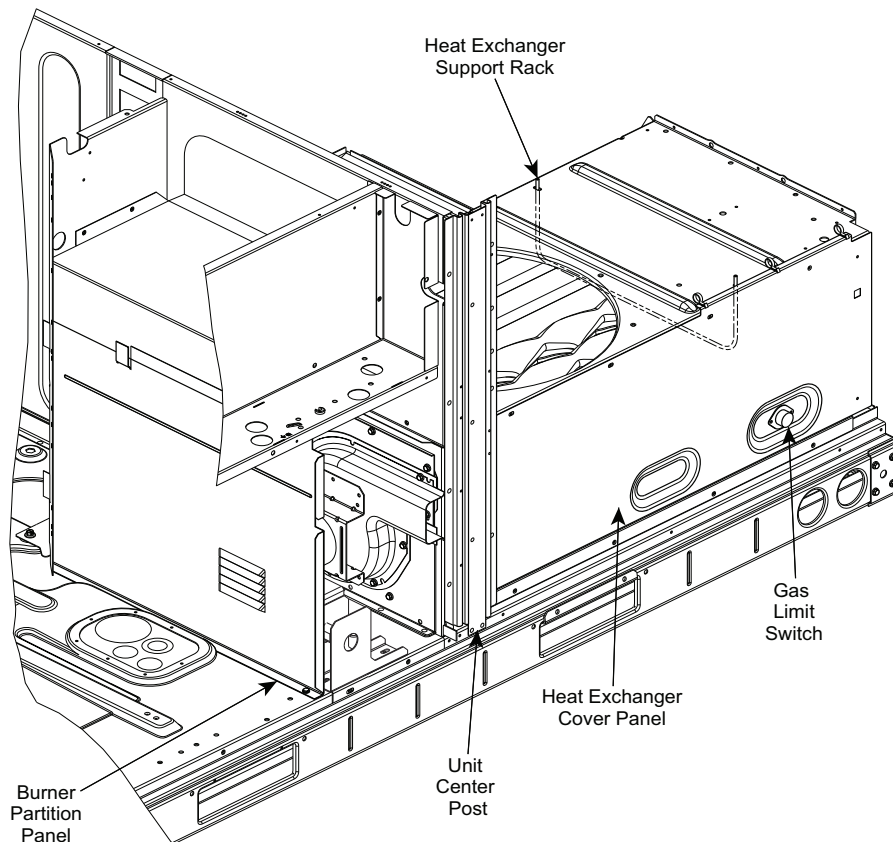

Fig. 52 — Heat Exchanger Access — Internal Panels, Center Post and HX Rack Locations
1. Remove the screw at the base of the burner partition panel (see Fig. 52) and slide out the panel.
5. Remove the screw at the base of the burner partition panel (see Fig. 52) and slide out the panel.
3. Remove the unit center post (see Fig. 52).